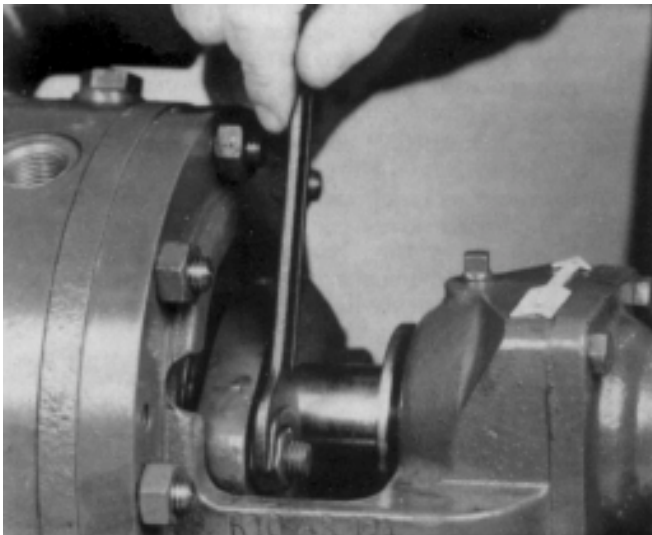

Fig. 19 Tightening the stuffing box gland.
The inserted packing rings should then be compressed moderately with the aid of the stuffing box gland (452) and the nuts (see Fig. 19). Then the nuts should be slacked again by one to two complete turns, and thereafter tightened lightly by hand. The correct and even seating of the stuffing box gland (452) should be checked with the pump is subjected to suction pressure, by inserting a feeler gauge between the gland (452) and the shaft protection sleeve (524.1/.2).
A newly packed stuffing box should leak profusely at first. If this leakage does not cease of its own accord after a relatively short period of operation, the nuts on the gland should be tightened slowly and evenly while the pump is running, until the stuffing box only drips slightly. Make sure that stuffing box glands (452) are tightened evenly and not askew, as otherwise the shaft protection sleeves (524.1/.2) might be damaged. (see Fig. 19)